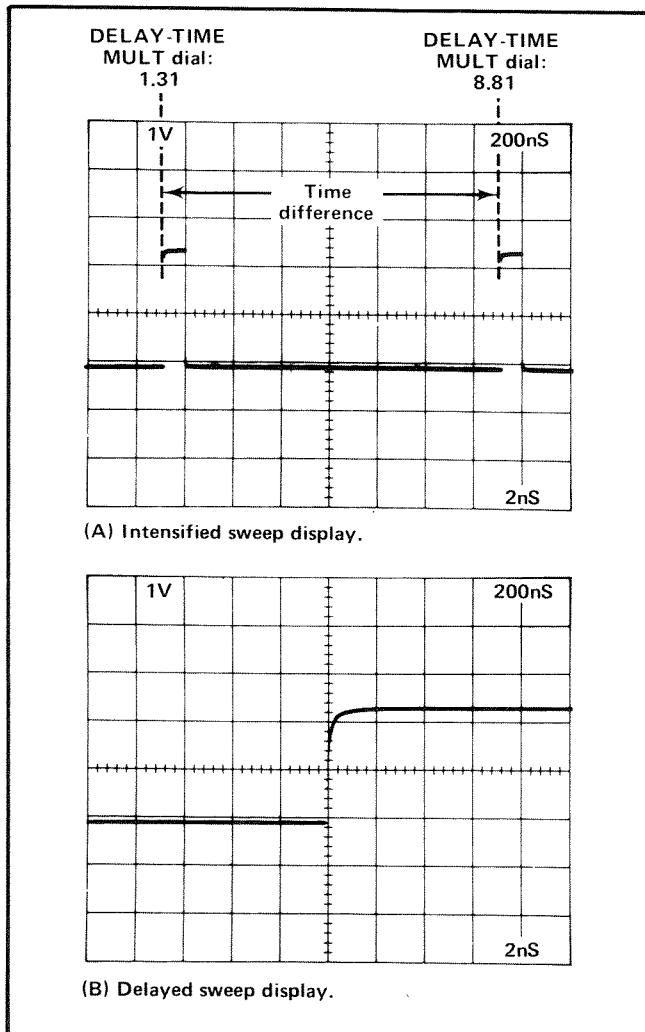

Fig. 2-13. Measuring time difference using delayed sweep.
**Example.** Assume the first dial setting is 1.31 and the second dial setting is 8.81 with the TIME/DIV OR DL'Y TIME switch set to 0.2 microsecond (see Fig. 2-13).